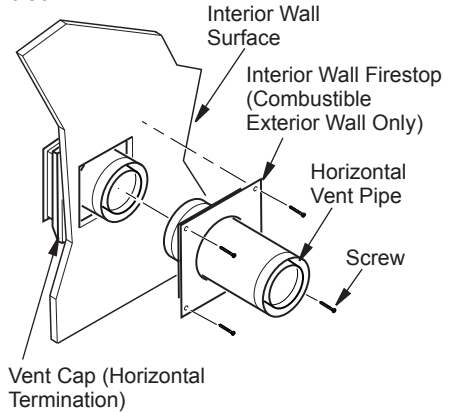

Figure 21 - Connecting Vent Cap with Horizontal Vent Pipe
5. **Connecting Vent Cap with Horizontal Vent Pipe:** Slide wall firestop over vent pipe before connecting horizontal run to vent cap (see Figure 21, page 16).